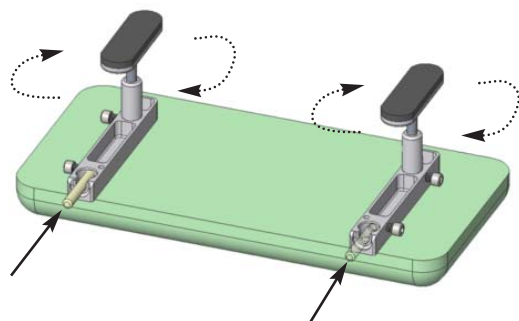

Figure 8
- 1) Insert the rubber adjusting feet into the aluminum blocks attached to the cushion (Refer to Figure 8).
- 2) Depending on which side of the multiCHAIR you need to transfer to, insert the stainless steel pin into the appropriate aluminum block and tighten using the 1/4" Allen wrench (Refer to Figure 8).